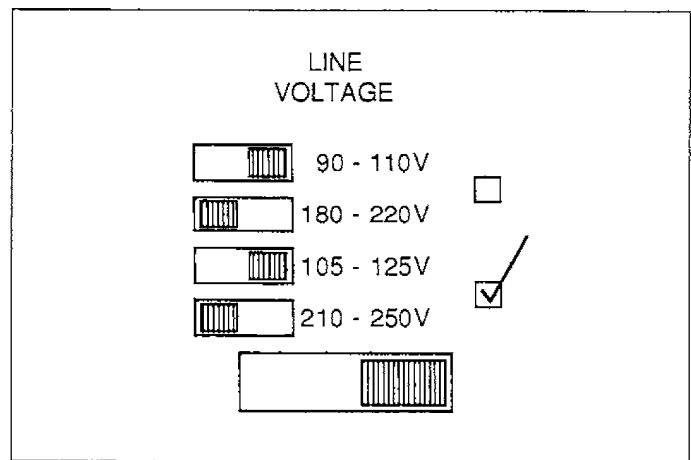

Figure 8-1. Line Voltage Switch
The Model 263 may be operated from either 105-125V or 210-250V 50 or 60Hz power sources. A special transformer may be installed for 90-110V and 180-220V ranges. The appropriate box on the rear panel (see Figure 8-1) is marked to indicate which transformer is installed. The upper box indicates that the low voltage transformer is installed, while the lower box indicates the higher voltage transformer is installed. The position of the switch indicates the selected line voltage. To change the line voltage, proceed as follows.
1. Locate the line voltage switch on the rear panel. Referring to Figure 8-1, place the switch in the correct position; to the right for low line voltage (90 to 125V) or to the left for high line voltage (180 to 250V).